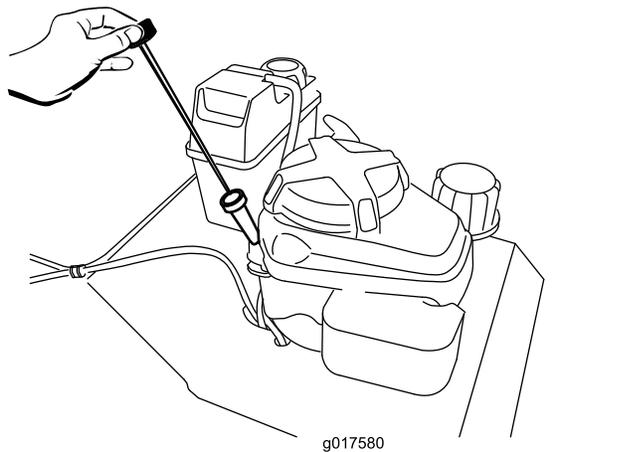

Figure 10
2. Clean around the dipstick (Figure 10).